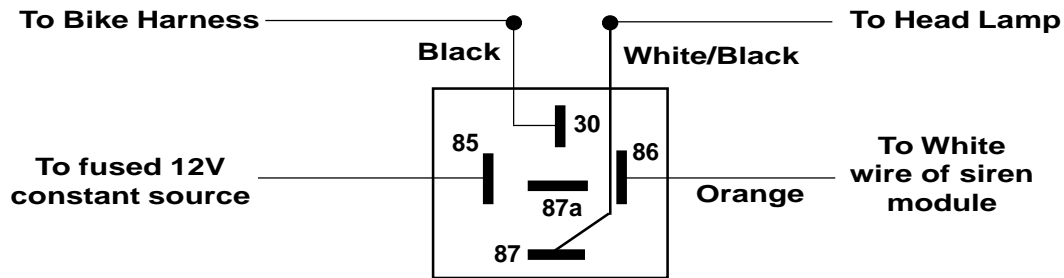

FIGURE 6
This wire is used to connect the alarm system to the motorcycle's turn signal/running lights. This feature requires a relay (included in the kit). The relay may be used as a horn, park light or starter kill. The relay, whenever possible, should be protected from water, engine heat or grease. The relay should be mounted as near to the lights as possible. **NOTE: Additional relays are available as part #AS-9256.** Refer to Figure 6 for relay connections.
**IMPORTANT!** *When using the relay to flash the vehicle's parking lights, unload the BLACK wire from terminal 87A of the relay harness and load it into terminal 87. Refer to Figure 6.*
1. Connect the ORANGE wire from the relay harness to the WHITE wire from the main harness. Be sure to insulate this splice with electrical tape. Refer to Figure 6.